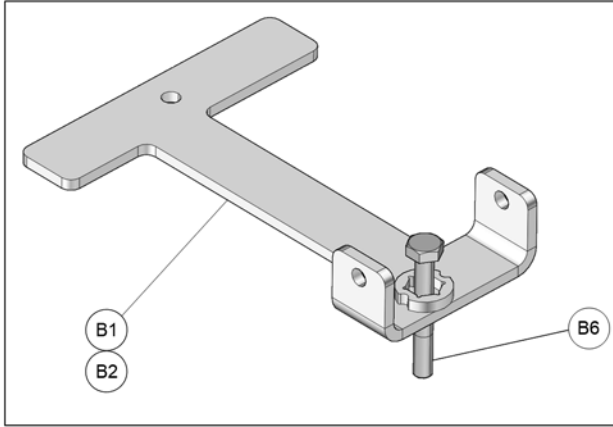

Fig. 4
4. Insert the provided M10x75mm bolt (**B6**) in the rear anchor bracket (**B1-B2**), as shown in Fig. 4